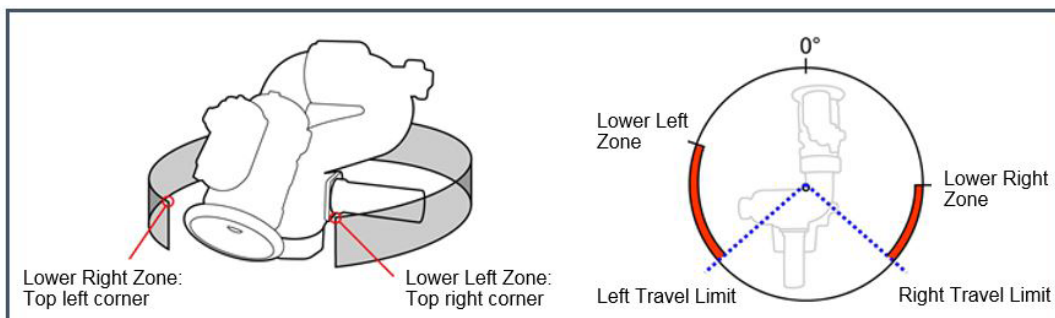

Figure 1: Keep-Out Zones
- **Lower-Right Keep-Out Zone** –The Right Keep-Out Zone will prevent the monitor from moving down and to the right into a specified zone (reference figure 1).
- **Lower-Left Keep-Out Zone** –The Left Keep-Out Zone will prevent the monitor from moving down and to the left into a specified zone (reference figure 1).